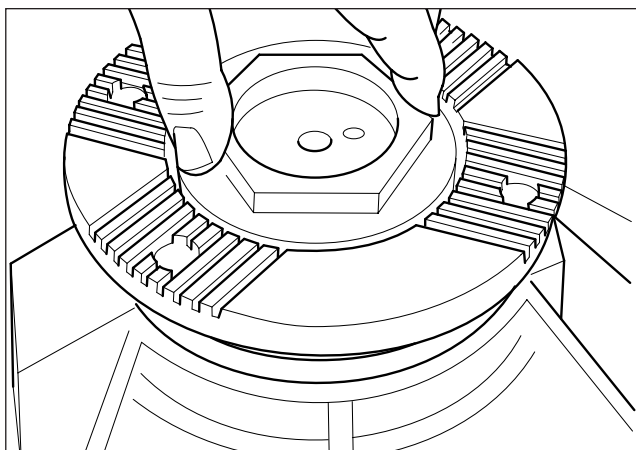

Fig. 2.61
2. Refit flange and pinion lock nut only to set pre-load on bearings. (Fig. 2.61)